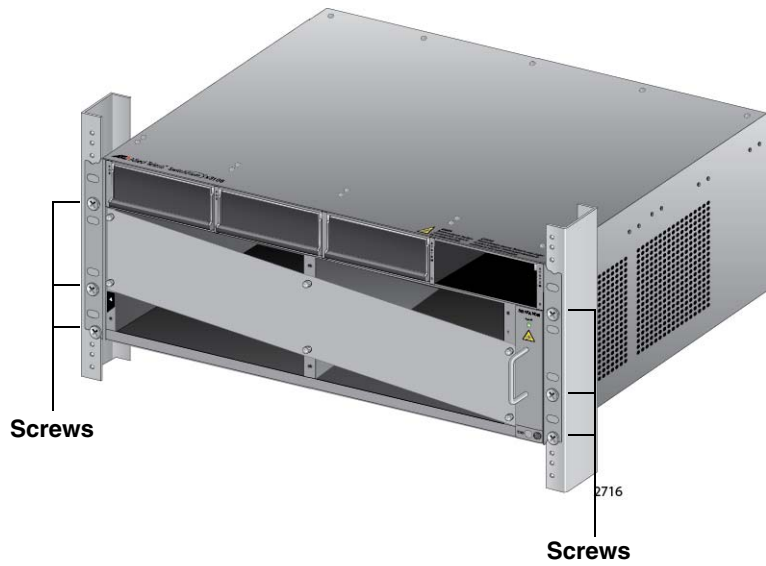

Figure 43. Tightening the Rack Mount Screws
5. Tighten all six screws shown in Figure 43 to secure the chassis to the equipment rack. Allied Telesis recommends tightening the screws to 10 inch-lbs.